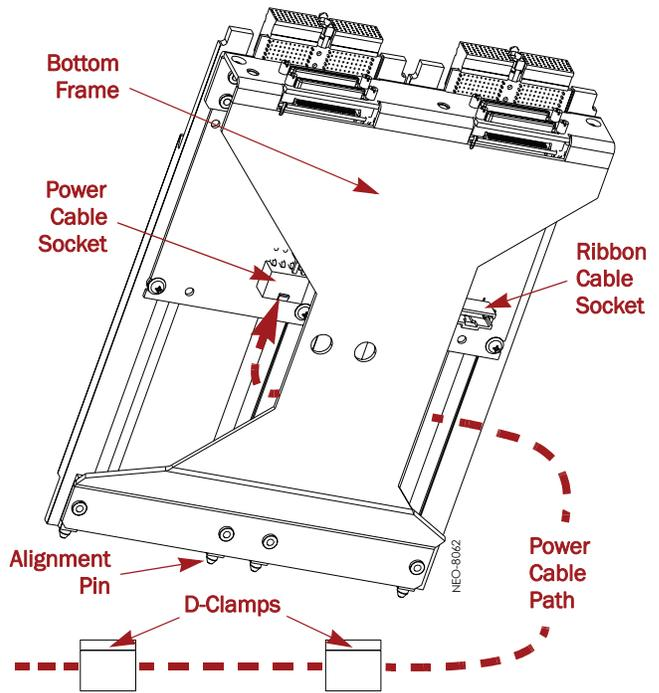

Figure 3. Hot Swap Connections (Bottom View)
2. Run the **power cable** through the Hot Swap assembly (Figure 3), and push the plug into the socket until it clicks in place.